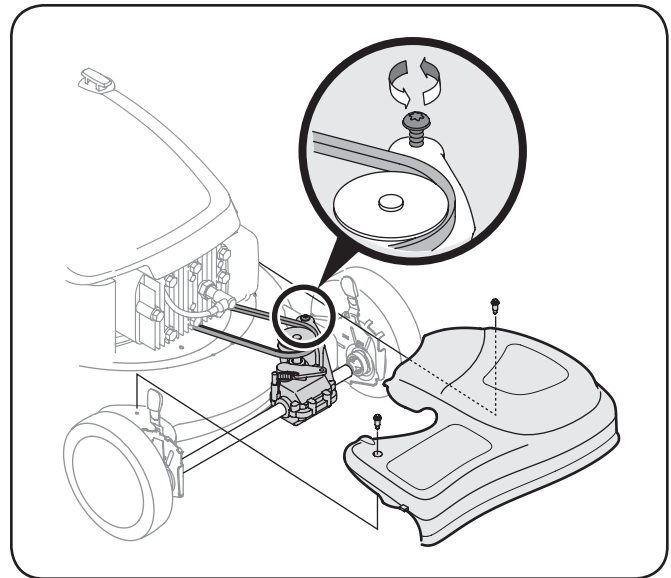

Figure 7-2
1. Remove two shoulder screws securing front drive cover to mower deck. See Figure 7-2. Press inward on sides of front drive cover and release tabs that secure it to the height adjuster brackets. Remove drive cover from mower.
2. Loosen screw holding belt tension spring to transmission. See Figure 7-2 inset. Do not remove screw completely. As you loosen it, tension on the belt will be released. Push transmission up a little and slide belt off the transmission pulley.